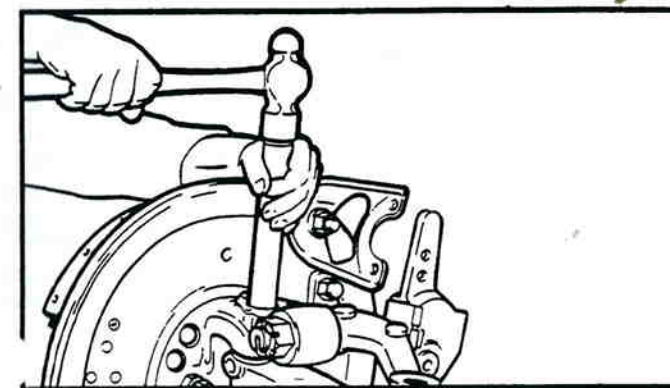

Figure 1-7. Removal of Straight Style Knuckle Pin.
8. The knuckle pin, straight or tapered, is removed from the knuckle by tapping it out using a **bronze** drift. See figures 1-7 and 1-8.